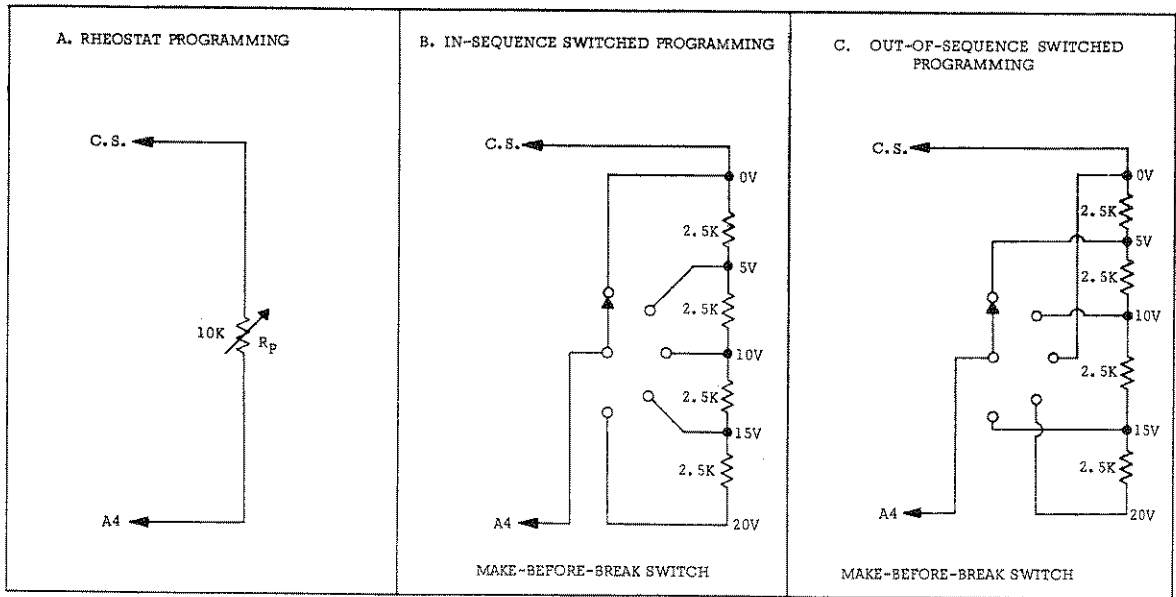
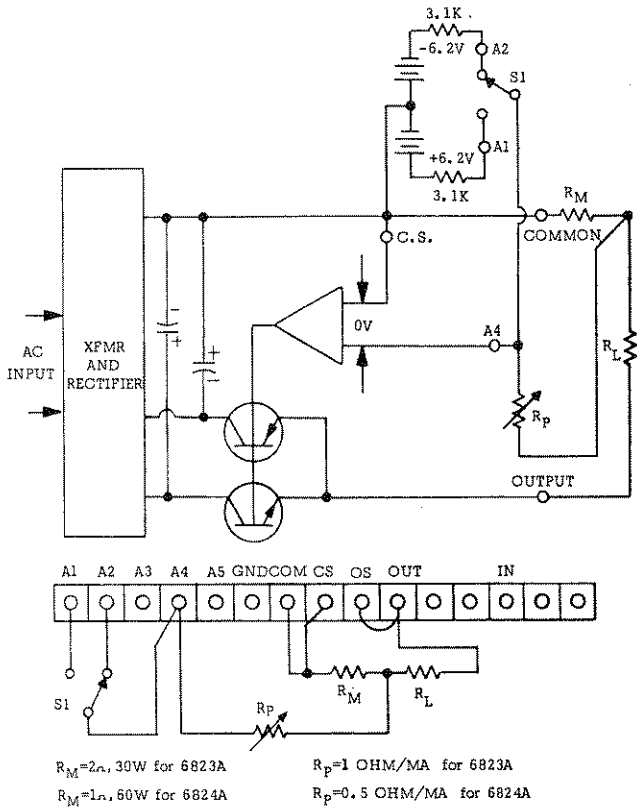

Figure 3-10. Switched Resistor Substitutes
Figure 3-18. Remote Resistance Programming, Bipolar Output (CC)
3-45 If it is desired to achieve accurate programming reproducibility, or if it is necessary to repeatedly set the power supply output to specific voltage values, either of the substitute arrangements suggested by Figure 3-10(B) and 3-10(C) may be employed in place of the rheostat  $R_p$ . Suppose, for example, it is decided to set the power supply over the span from 0-20V. If continuous adjustment is required, the best choice would be a 10K rheostat (since the programming coefficient is 500 ohms/volt). But if specific tests must be made at 0, 5, 10, 15, and 20V, the arrangement shown in Figure 3-10(B) should be employed, using a make-before-break switch. If the same voltage values are desired, but not in ascending or descending sequence, the terminals from the resistor string can be connected to the switch in any desired sequence, as suggested by Figure 3-10(C).
3-74 Figure 3-18 shows one method of controlling the output of the PS/A as a remote programmed Constant Current power supply. Switch S1 causes the output current to be either positive or negative. If it is desired to achieve only a positive or only a negative output current (unipolar output), then S1 must be eliminated. Terminal A4 is strapped directly to A2 for a positive output, or directly to A1 for a negative output.
3-75 The front panel FINE/ZERO control permits the output current to be adjusted to zero when Rp is set to zero, while the slope of the programming coefficient is adjusted by means of R38 (positive output) and R39 (negative output). Either of the switched resistance schemes of Figure 3-10 may be substituted for a variable Rp in this or any other Constant Current diagrams which follow. The advantage of the circuit of Figure 3-18 is that the output current is a linear function of the programming resistance; the disadvantage is that a switch must be used in order to accomplish polarity reversing.